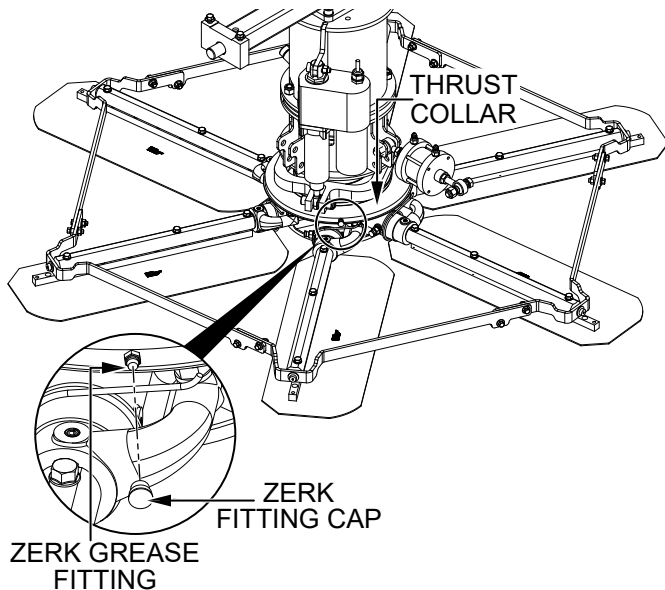

Figure 40. Thrust Collar Lubrication
1. Locate the **Zerk grease fitting** on either thrust collar (Figure 40). Remove the **Zerk fitting cap** and set it aside.